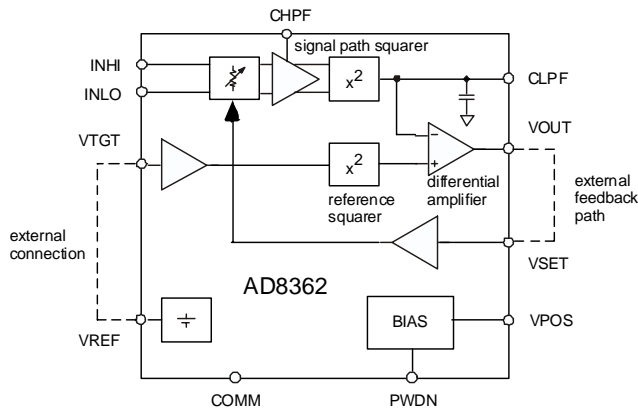

Figure X4 Simplified Block Diagram in Measurement Mode
Figure X4 shows the AD8362 as it could be configured for measurement mode operation. The AD8362 compares an amplified, squared, averaged version of the input signal to a target voltage which has been applied to an identical squaring cell. These voltages are applied to a differential amplifier, the output of which is fed back in Measurement Mode to the gain control of the input variable attenuator. This forces the output of the signal-path squaring cell to be equal to the output of the reference squaring cell. In this mode, the output voltage of the differential amplifier is a linear-in-dB representation of the input signal rms voltage.
R17 forms a voltage divider with the input resistance of VSET, as shown in Figure X4. The formula for R17, in terms of the desired slope (NS), original slope (OS) and input resistance of VSET (RIN) is